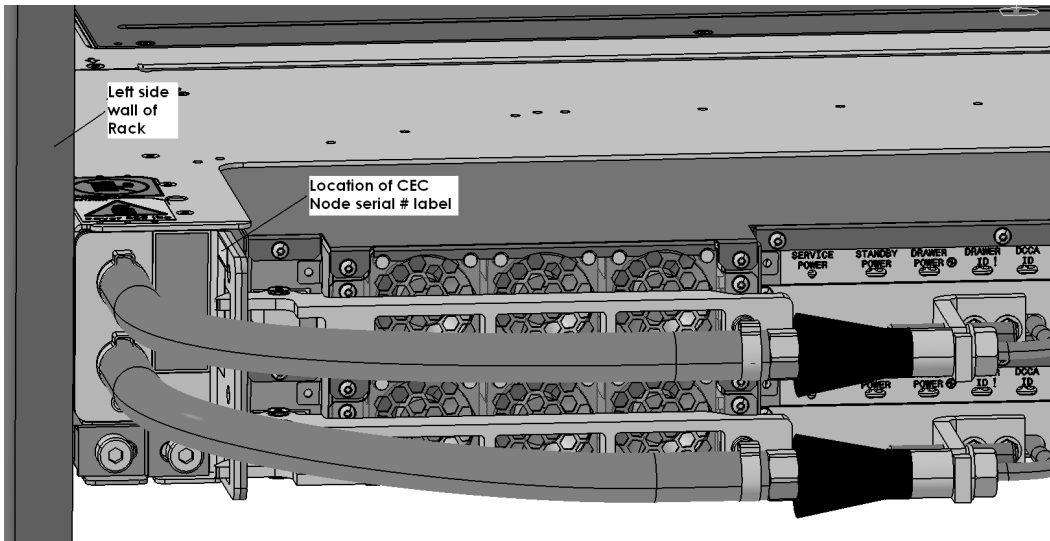

Figure 8 FRU Serial number location
STEP 8 Verify that the serial number on the CEC Enclosure VPD label (CEC Node serial # label) matches the location code of the L-Link OBE / L-Link Port requiring service (see Figure 8). This is the 7 digit serial number in the location code, show in bold below for example: